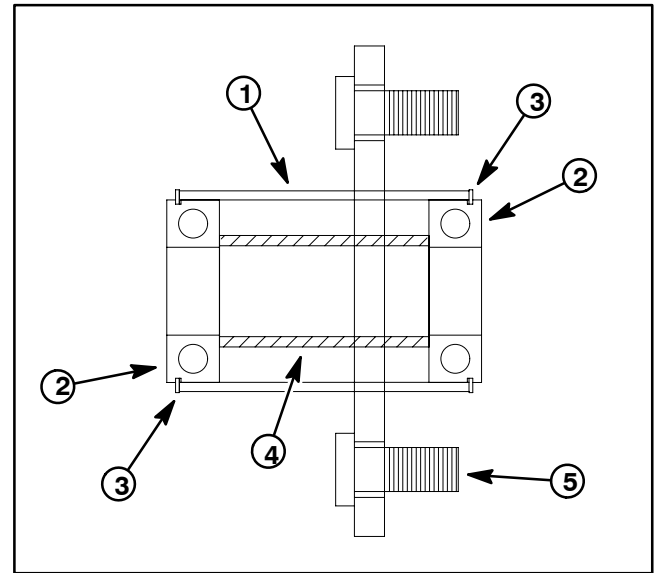

Figure 4
3. Loosen and remove five (5) lug nuts that secure wheel to machine. Remove wheel from vehicle.
- B. Remove cap screw and two (2) washers that secure the wheel hub to the spindle. Slide wheel hub from the spindle shaft.
5. If necessary, remove bearings from both sides of the wheel hub (Fig. 4). Discard removed bearings. Retrieve spacer from wheel hub. Clean the spacer and the inside of the wheel hub.
1. If bearings were removed from wheel hub, position spacer in wheel hub and press new bearings into the hub until the bearing retaining rings seat against hub (Fig. 4).